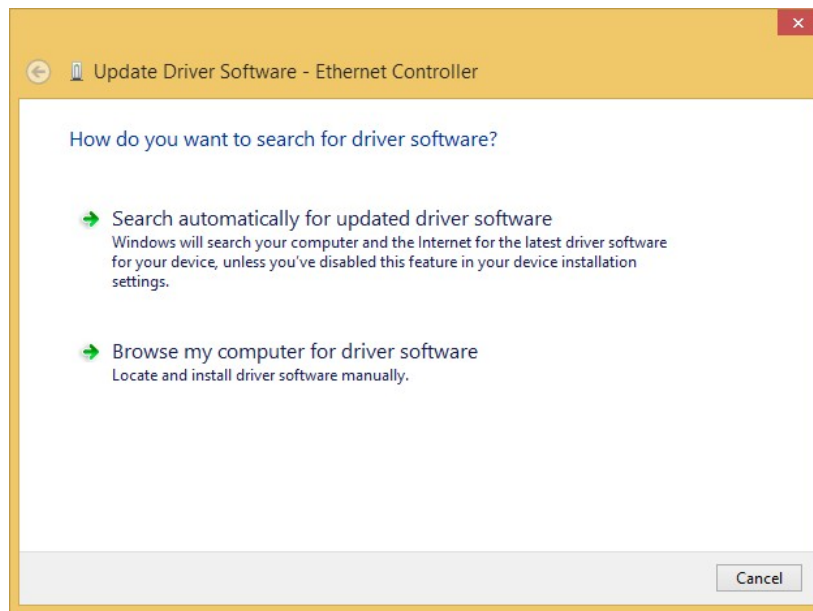

Figure 6-16: Update Driver Software Window
**Step 7:** The Update Driver Software Window appears (**Figure 6-16**).